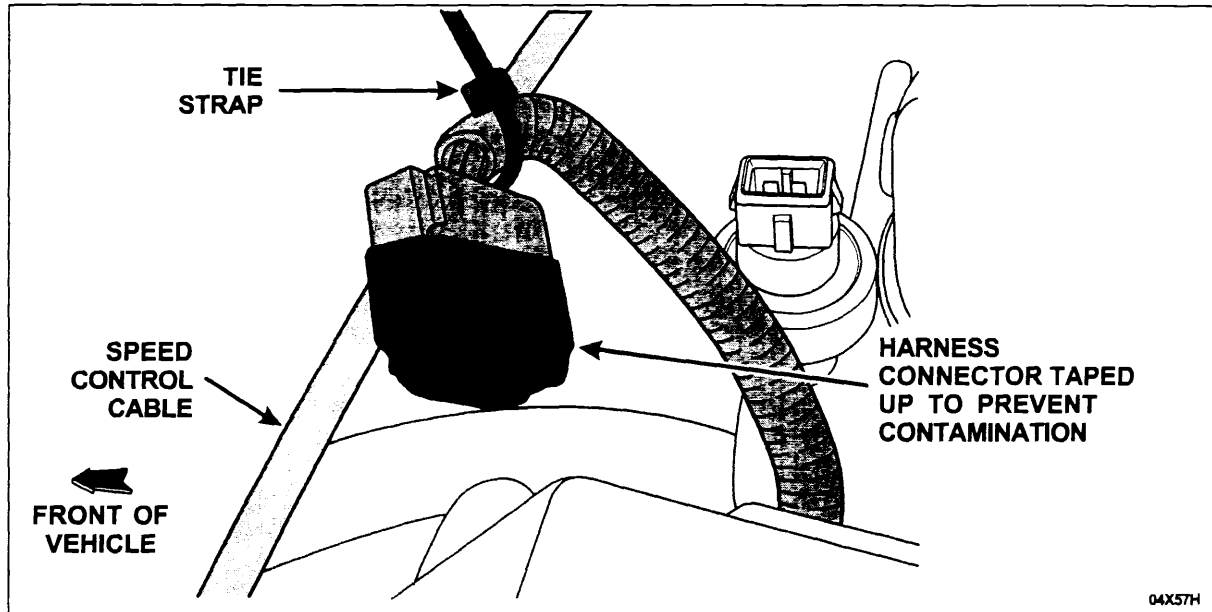

FIGURE 8
5. Secure the harness/connector by tie strapping it to the speed control cable or some other stationary object. Keep the harness away from the power distribution box to avoid chafing the harness. See Figure 8.